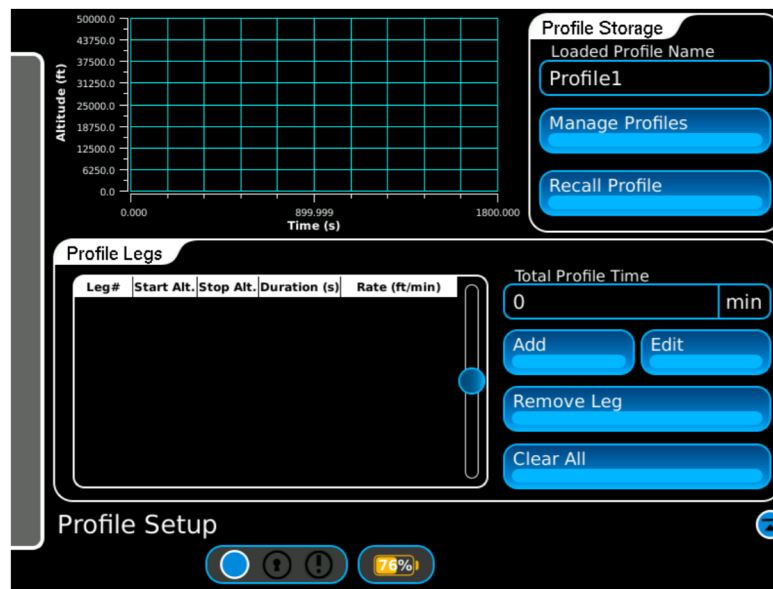

Figure 4-1 Profile Setup Screen
6. To add a leg to the profile, press the **Add** button and the **Add Leg** pop-up window will be displayed. See Figures 4-1 and 4-2.
11. Press the **Add** button and the **Add Leg** pop-up window will be displayed again. See Figures 4-1, 4-2 and 4-3.
16. Press the **Add** button and the **Add Leg** pop-up window will be displayed. See Figures 4-1 and 4-2.
21. Press the **Add** button and the **Add Leg** pop-up window will be displayed again. See Figures 4-1, 4-2 and 4-3.
26. Press the **Add** button and the **Add Leg** pop-up window will be displayed. See Figures 4-1 and 4-2.
31. Press the **Add** button and the **Add Leg** pop-up window will be displayed again. See Figures 4-1, 4-2 and 4-3.